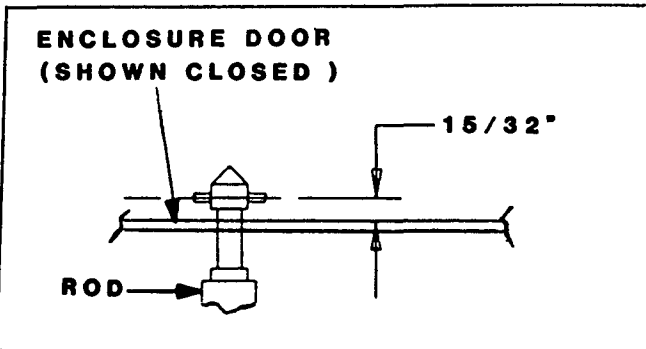

Figure 7. OPERATING ROD REPOSITIONING
8. Turn out operating rod so that it extends  $15/32$ " beyond closed door. See Figure 7.